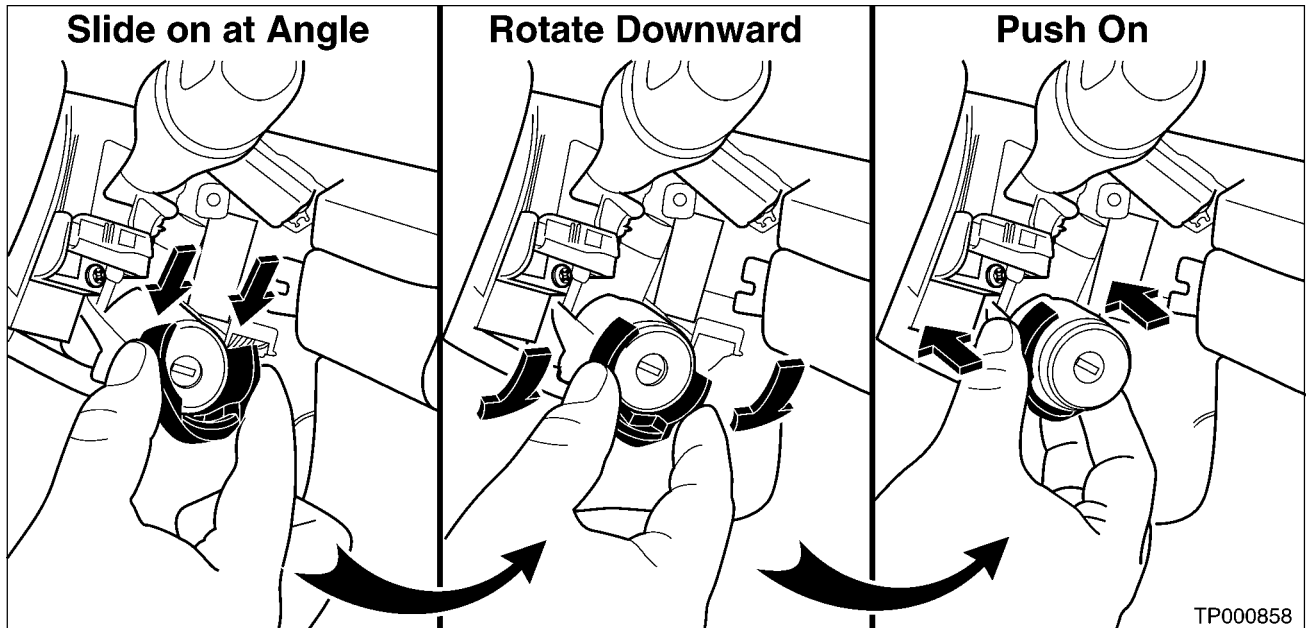

Figure 7
8. Install the new plastic ring clip (P/N D8791-00002) on the ignition key lock cylinder body according to the steps illustrated in Figure 7.